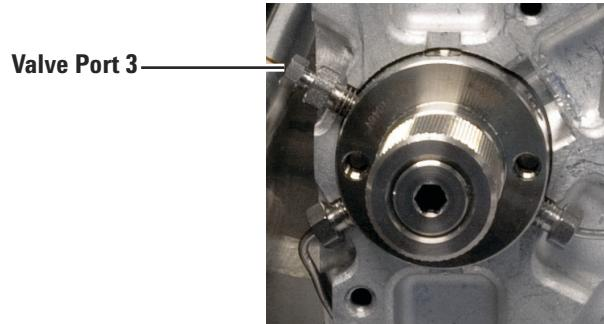

Figure 35 Valve Port 3
- 5 The transfer line will install in valve port 3 (at the 10 O’clock position), as shown in Figure 35.